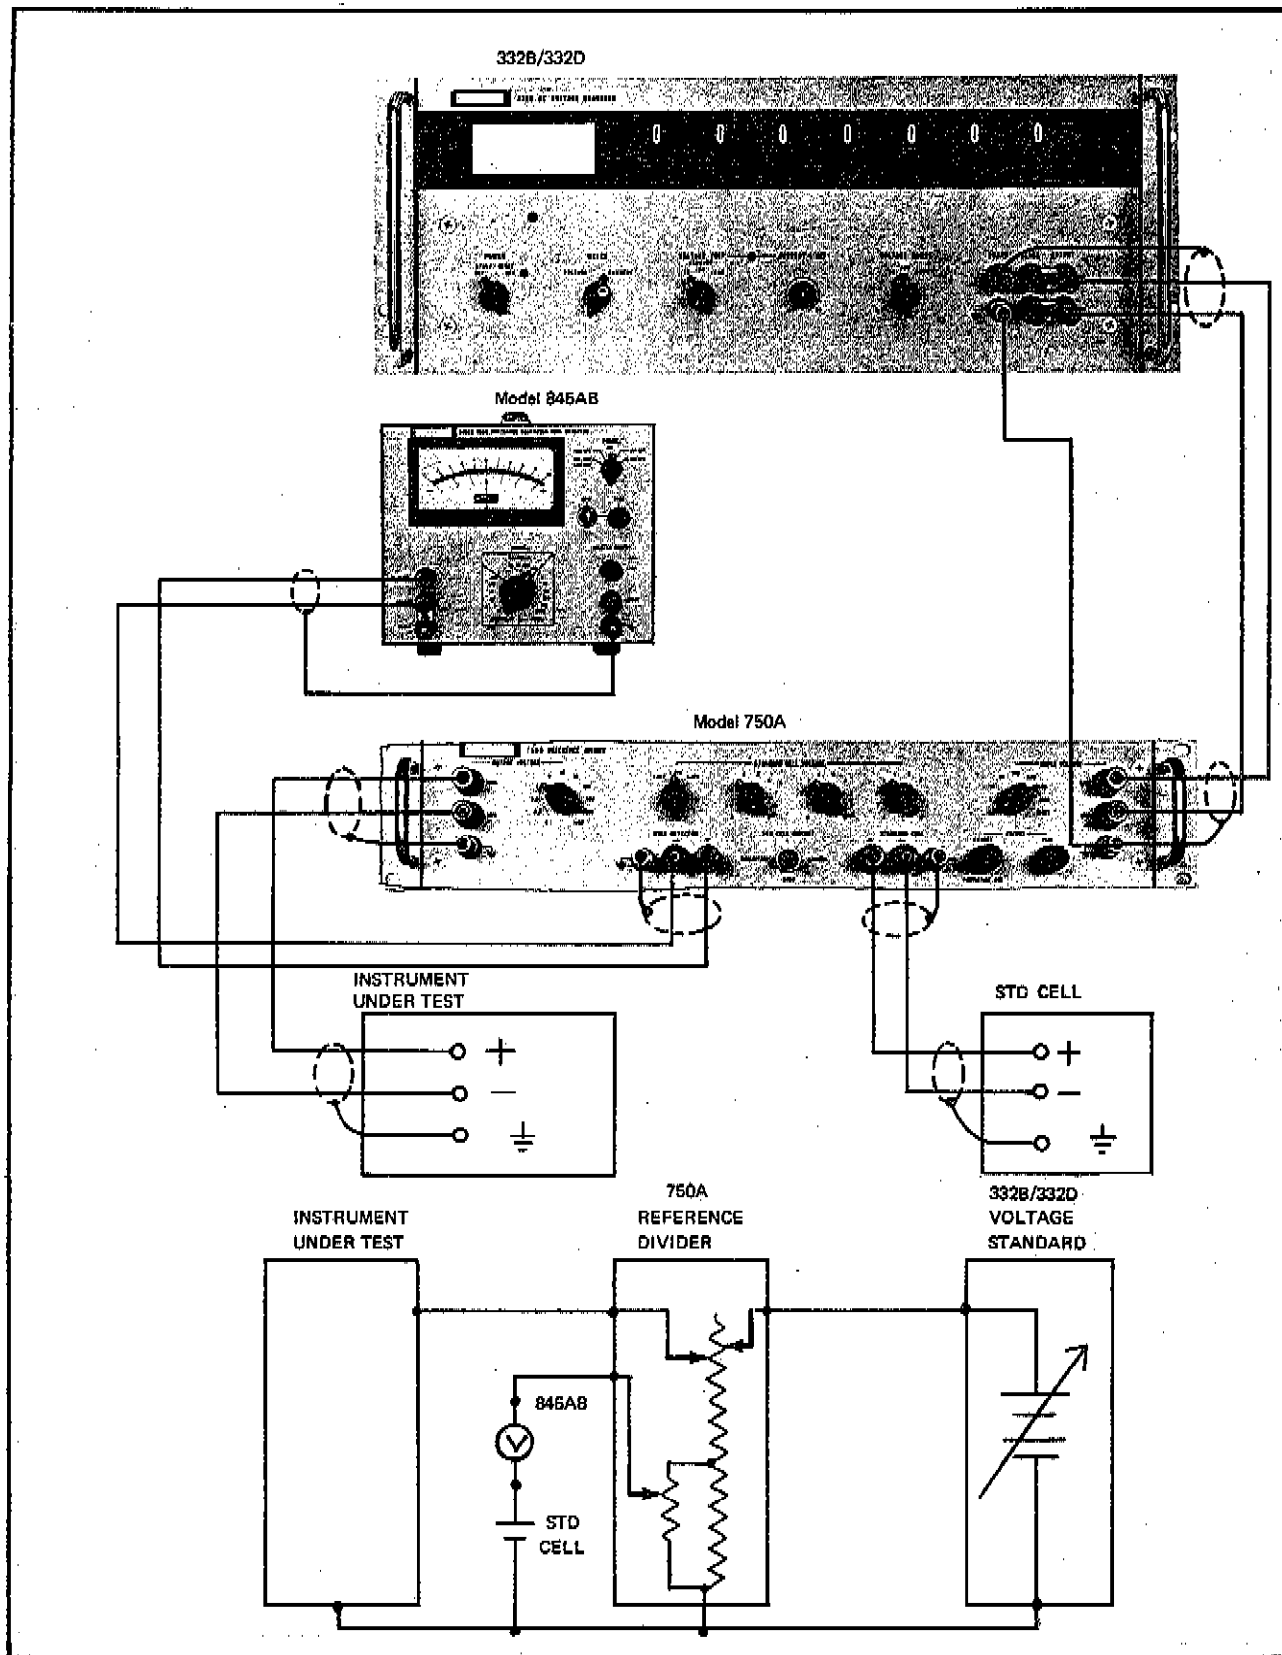

Figure 2-4. OPERATION AS 10 PPM CALIBRATOR
- c. Connect the equipment as illustrated in Figure 2-4. Ensure that the equipment connections are in the proper polarity.